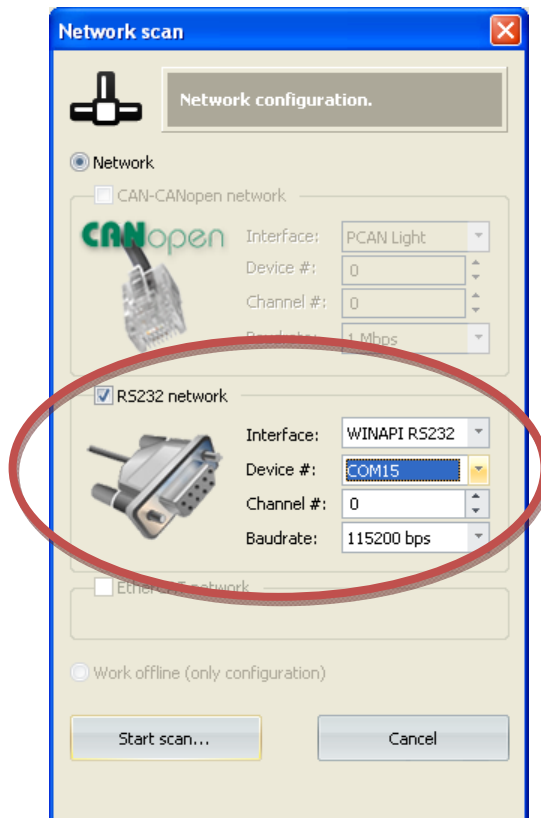

Figure 1: Selecting network connection
1. **Select network connection:** First the desired communication interface must be selected (see Figure 1). For RS232 interface remember to select the correct COM port in Device number.